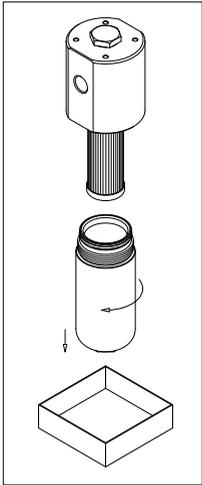

fig. 8
- (Fig. 8) Unscrew the filter bowl after placing a vessel to collect the operating fluid